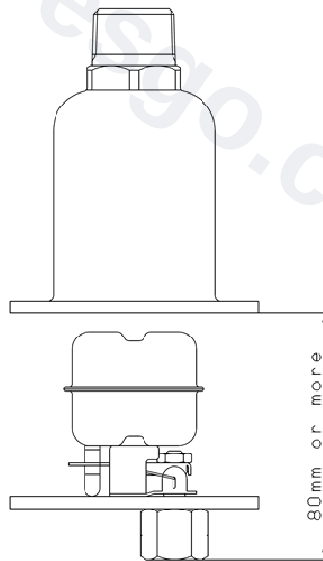

Fig3.4 Maintenance space
* Failure to follow Fig3.4 and this notice prevents maintenance, inspection and repair of the products.